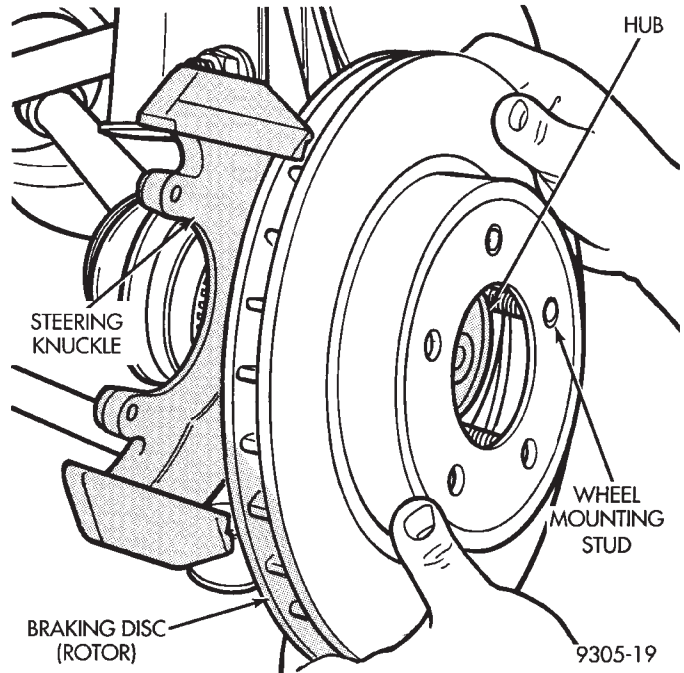

Fig. 55 Removing Rotor
(4) Remove rotor from hub by pulling it straight off wheel mounting studs (Fig. 55).
(4) Install the rotor on the hub and bearing assembly (Fig. 55).